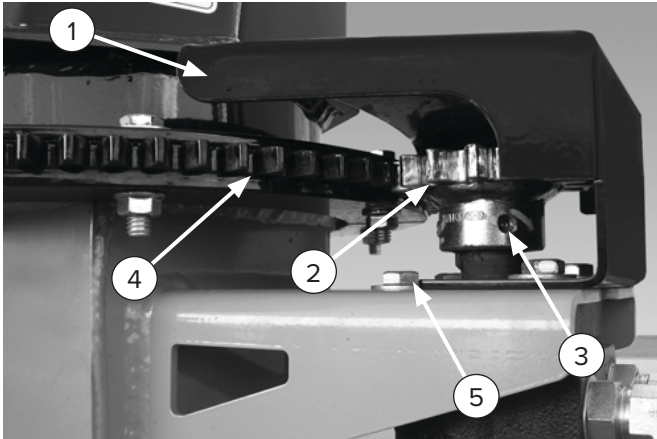

Figure 8
1. Remove chute rotate gear cover (Item 1) [Figure 8].
2. To adjust the drive gear (Item 2) alignment (height), loosen the drive gear set screws (Item 3), adjust height of drive gear, re-tighten set screws. Use loctite® on set screws. Drive gear (Item 2) should be centered on rotation gear (Item 4) [Figure 8].
3. To adjust the gear engagement (backlash), loosen motor mount bolts (Item 5) [Figure 8], adjust motor forward or backward to fully engage drive gear into rotation gears and tighten motor mount bolts (use loctite® on motor mount bolts).
4. Reinstall the chute rotate gear cover (Item 1) [Figure 8].
1. Remove the chute rotate gear cover (Item 1) [Figure 8].
4. Loosen motor mount bolts (Item 5) [Figure 8] if needed to move drive gear.
10. Install the chute rotate gear cover (Item 1) [Figure 8].
1. To replace chute rotate drive gear (Item 2) [Figure 8], remove chute rotate gear cover (Item 1) [Figure 8].
2. Loosen drive gear set screws (Item 3) [Figure 8] and remove drive gear (Item 2) [Figure 8].
4. Install the chute rotate gear cover (Item 1) [Figure 8].